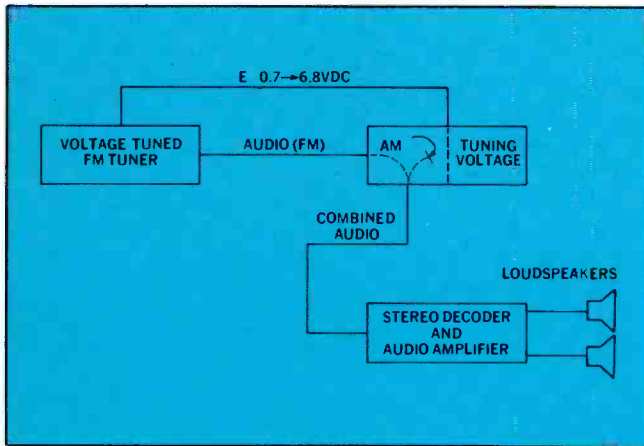

Fig. 8—Block diagram of the Philco - Ford receiver used in Fords.
In 1972 Philco - Ford introduced a relatively unique car radio design that is still being used. Fig. 8 shows a sectional block diagram of this receiver. In the FM mode, the front end (RF amplifier and local oscillator) is voltage - tuned by a few variable - capacitance (varactor) diodes. The front - end stages, the IF strip and the FM demodulator are on a single printed - circuit board which is mounted along the real panel of the radio. The demodulator is a diode type, although you can easily mistake it for a quadrature detector (QD) because the diodes are "hidden" within an RCA CA3043 ICA. However, the fact that it is a diode type is still visually evident because the QD uses a phase coil, as opposed to the transformer used in the Philco.